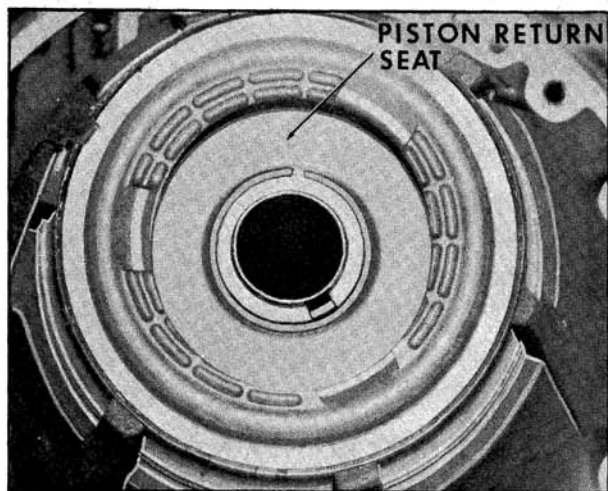

Fig. 6-489 Installing Return Seat
3. Position piston return seat on piston return springs. Place snap ring on return seat so that ring may be easily installed when seat is compressed with tool. (Fig. 6-489)